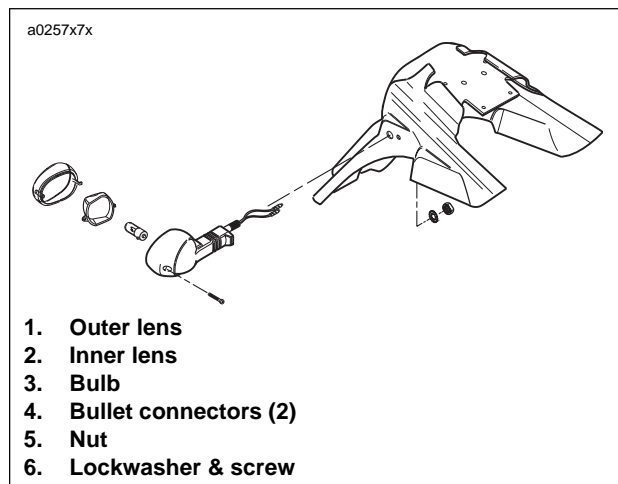

Figure 7-68. Rear Turn Signals
2. See Figure 7-68. Disconnect two bullet connectors on turn signal wires.
- See Figure 7-68. Insert bullet connectors through rear hole in tail lamp bracket. Attach turn signal using lock-washer and nut. Tighten nut to 25-28 **in-lbs** (2.8-3.2 Nm).